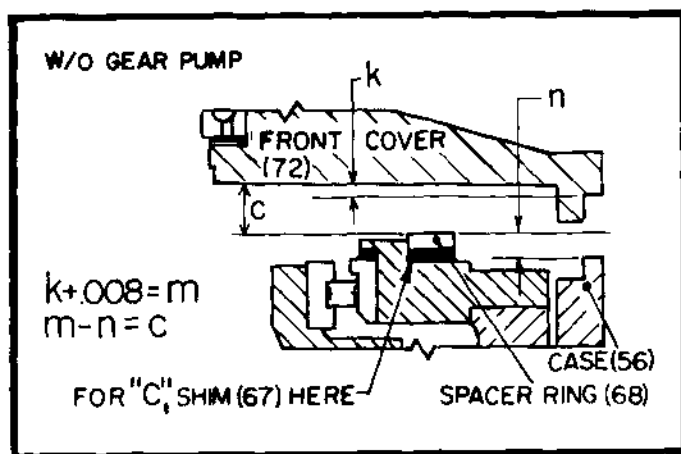

Figure 12. Slideblock End Clearance W/O Gear Pump. (508644)
See Figure 12. Without Gear Pump --- For housings (72) without gear pump, measure from face of housing to gasket surface of same housing.